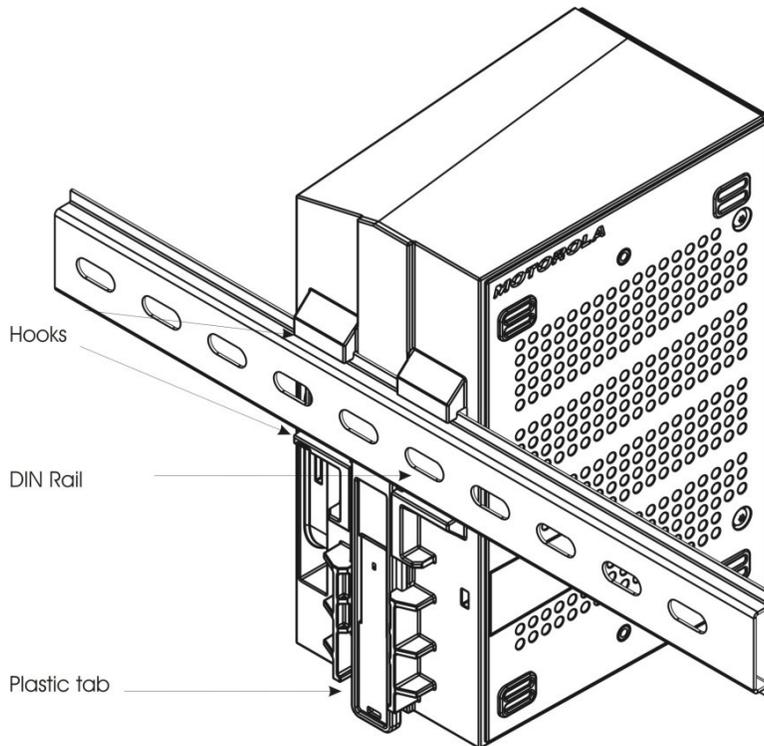
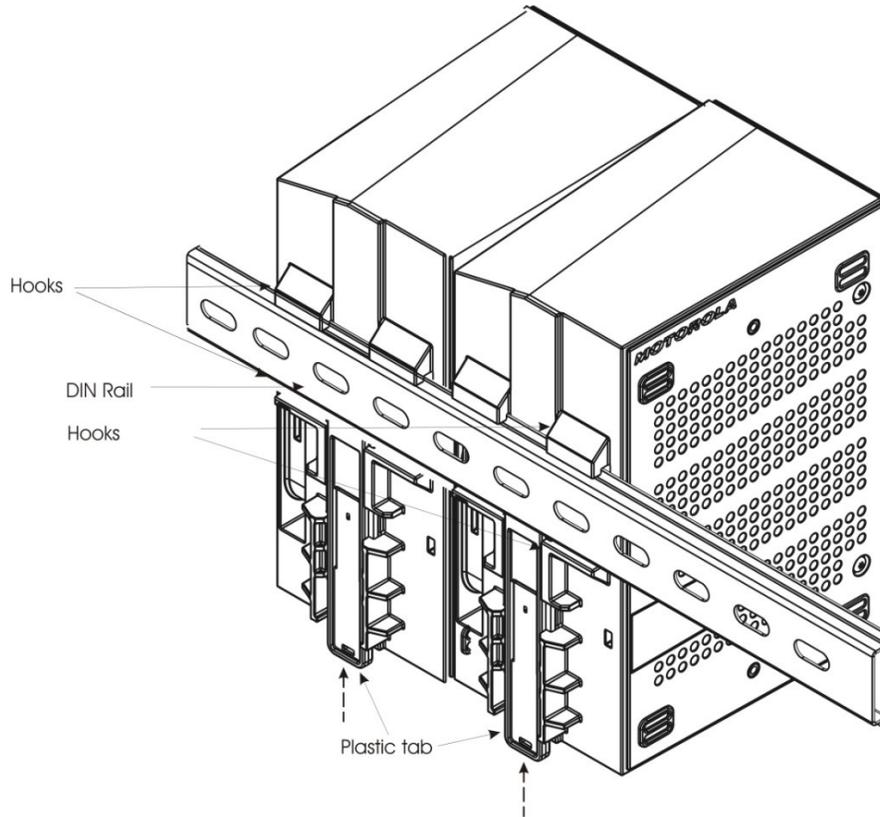

Figure 2-3 Hooking the ACE1000 Unit onto the DIN Rail
Figure 2-4 Hooking the ACE1000 Unit with I/O Expansion Module onto the DIN Rail
- 2) Lift the ACE1000 unit and hang onto the DIN rail, using the hooks in the back of the unit. See Figure 2-3.
- 3) Slide the plastic tab upwards, until it locks against the DIN rail. See Figure 2-3. If the ACE1000 unit includes one or more I/O expansion modules, repeat this step for all I/O expansion modules. See Figure 2-4.